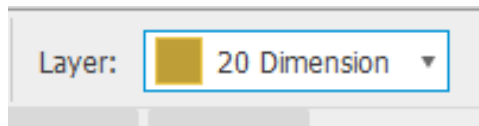

Figure 13 - Dimensions layer selected.
- Set the active layer to the dimensions layer, as shown in **Figure 13**: